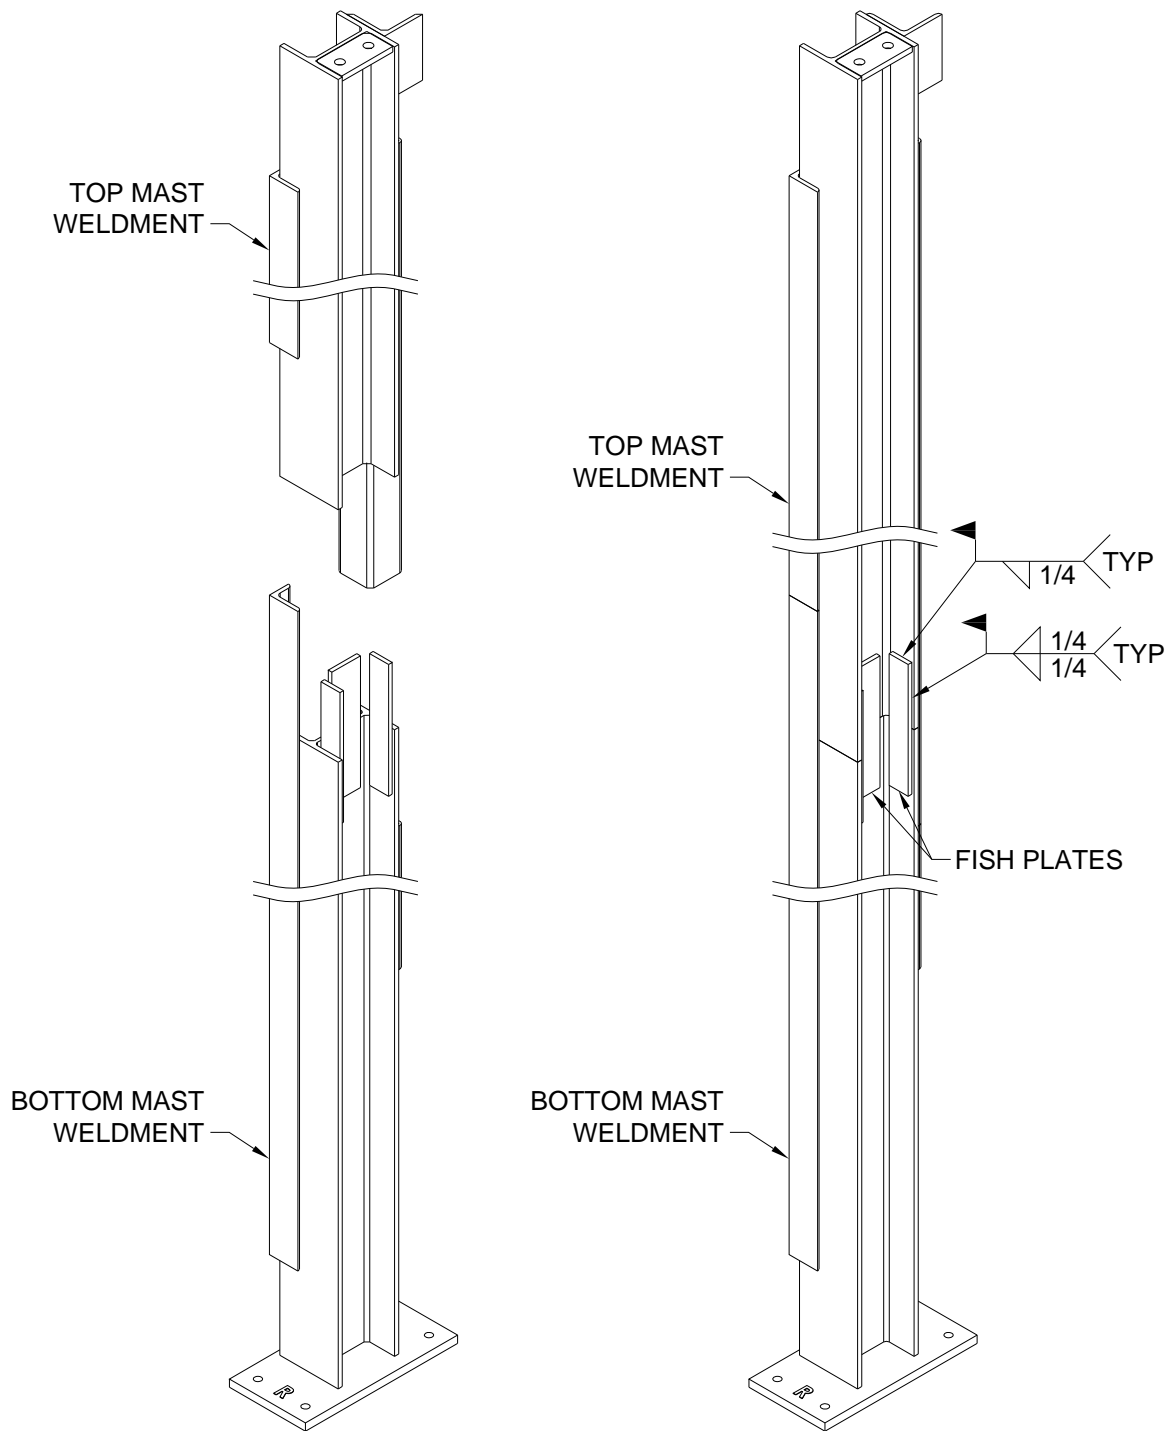

Figure 23 Mast Splice Detail
1. Set the upper mast on its respective lower mast (plates & beams are marked) in the orientation shown on **Figure 23**, taking necessary precautions not to bend or damage transition plates.